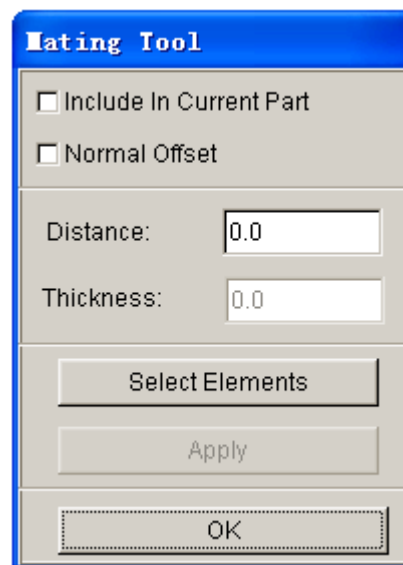

Figure 10.2.11 Mating Tool dialog box
- Select OFFSET FROM MATING TOOL to display the MATING TOOL dialog box (as shown in Figure 10.2.11).